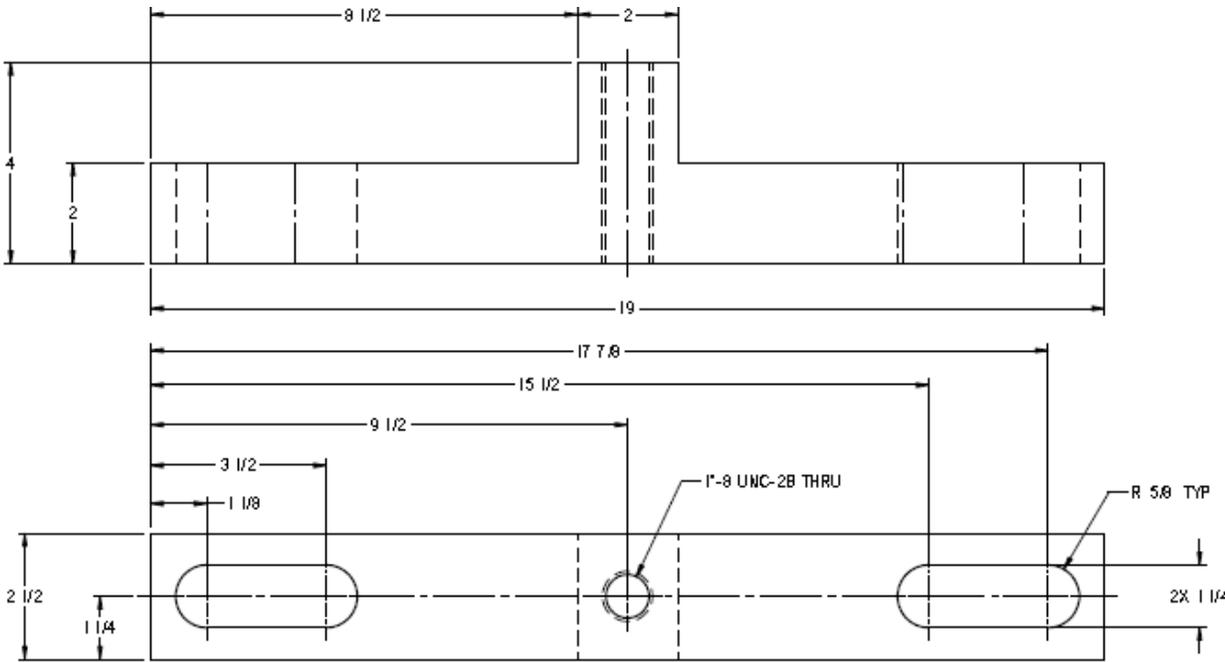

Figure 2. Power Rotor/Housing Removal Strongback
- Power Rotor/Housing Removal Strongback (Figure 2)
13. Move power rotor assembly forward to expose mechanical seal assembly (3, Figure 3) which is mounted on seal sleeve (26). Slide mechanical seal sleeve off of the power rotor (22), keeping the seal assembly (3, Figure 2) and stationary seat (1, Figure 3) intact. This will include the following parts: mechanical seal (27), seal sleeve (26), retaining ring (28), stationary seat adapter (63) and seat gasket (65). Remove O-ring (25) from power rotor (22).
14. Remove retaining ring (28) from the groove of the seal sleeve (26).